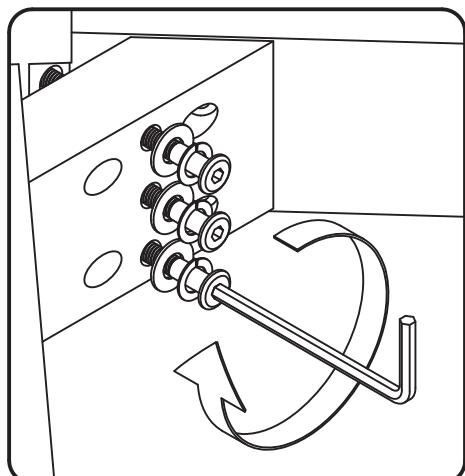

Figure 1
Attach Legs (E) and (F) to Seat (A) with Flat Washers, Spring Washers and Head Cap Bolts, tightening bolts only halfway. (See Figure 1)